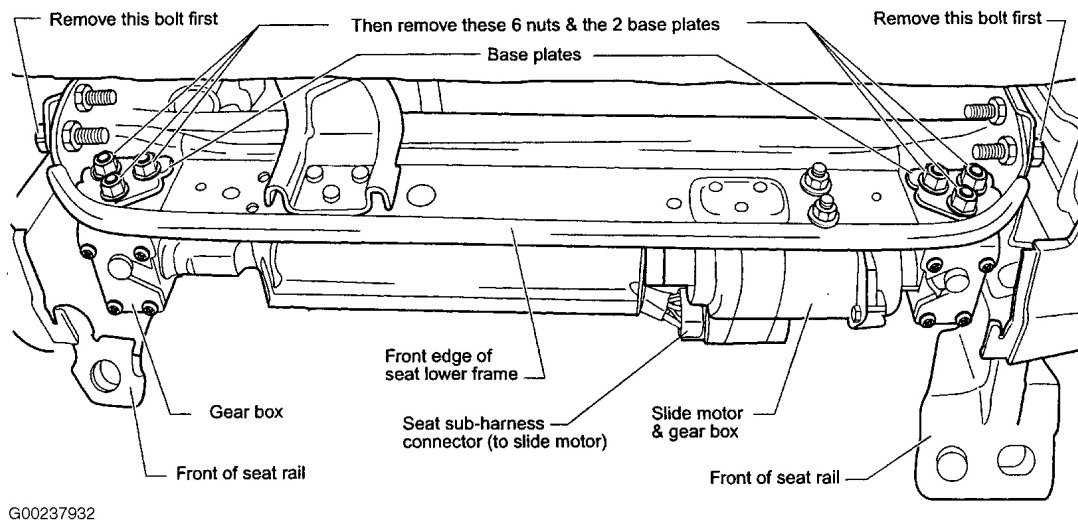

Fig. 6: Disconnecting Connector & Releasing Gear Boxes
- Disconnect the seat sub-harness connector (to slide motor - see **Fig. 6**).
- Remove M8 (12mm head) bolt from both sides of the seat frame, located to the sides of the front edge of seat (see **Fig. 6**).
- Then, remove six nuts and two base plates on both sides, located at the top of the seat frame, to release the gear boxes (see **Fig. 6**).
NOTE: For steps 19 through 22 (below), refer to **Fig. 6** and **Fig. 7**, if needed.
10. Re-install and tighten two M8 (12mm head) bolts located to the sides of the front edge of the seat (see **Fig. 6**). Bolt torque: 13-17 ft-lb (17.5-23.7 N.m).